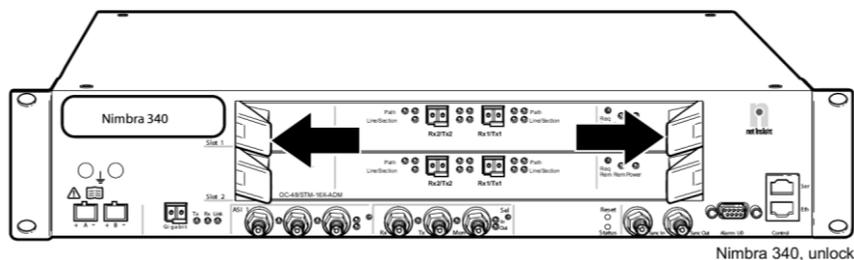

Figure 27. Opening the module locks
2. Remove the screws at the handles of the module. Push the locks outward to unlock the module from the chassis, see Figure 27. (Use a Torx T8 screwdriver.)